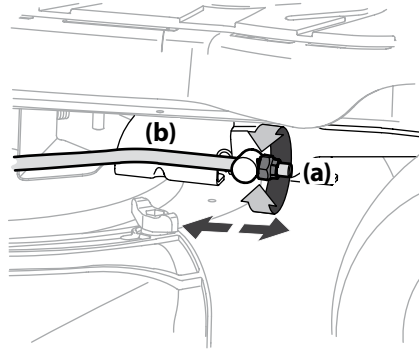

Figure 4-2
3. Locate the flange lock nut (a) on the front end of the PTO lift rod (b). See Figure 4-2.